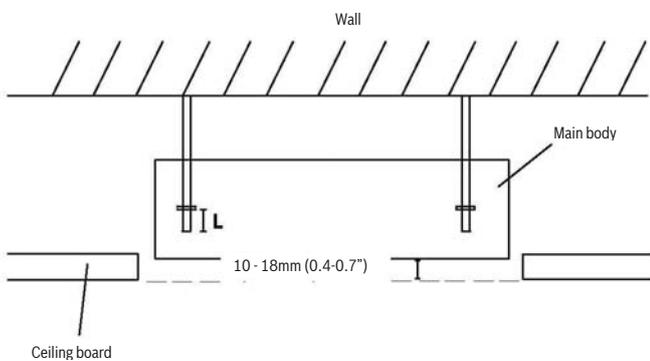

Fig. 4.6
**NOTE:** The bottom of the unit should be 10-18mm (0.4-0.7") higher than the ceiling board. Generally, L (indicated in Fig. 4.6) should be half the length of the suspension bolt or long enough to prevent the nuts from coming off.